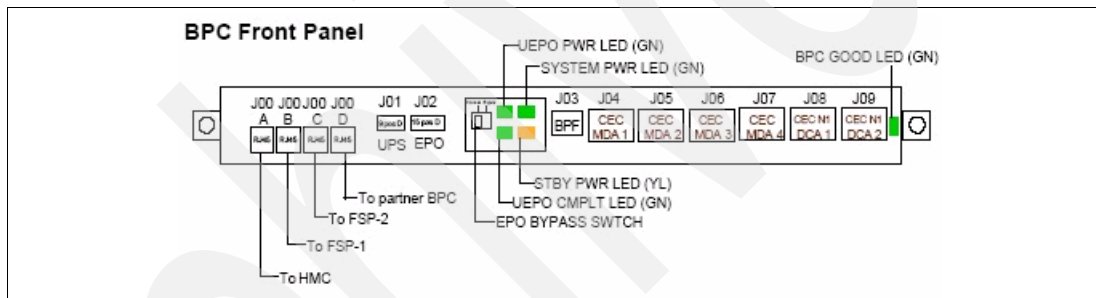
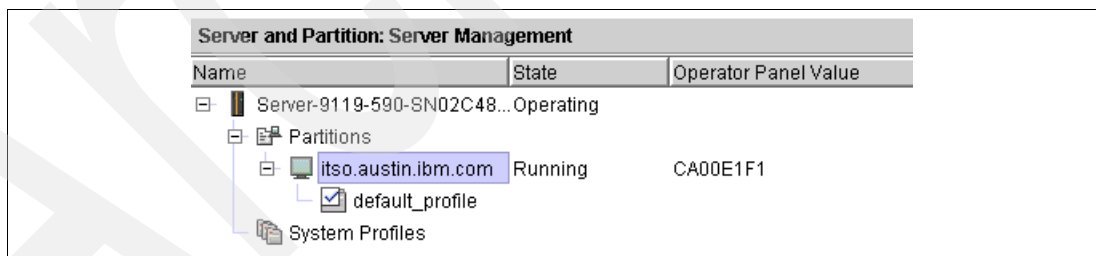

Figure 2-20 BPC front panel
Figure 2-21 Operating states as seen from the HMC
There is no physical operator panel on the p5-590 and p5-595. The light-strip on the bulk power controller (BPC) front panel (Figure 2-20 on page 59) or the HMC (Figure 2-21 on page 59) can be used to obtain information similar to what an operator panel would provide. The power on sequence is described in Table 2-21 on page 59.
a. See Figure 2-20 on page 59 for LED locations.
Each bulk power controller (BPC) has two sides, commonly referred to as *A* and *B* sides. Each BPC hub has four 10/100 Ethernet ports to connect various system components. See Figure 2-20 on page 59 for details. The BPC connectivity scheme is presented in Table 2-22.